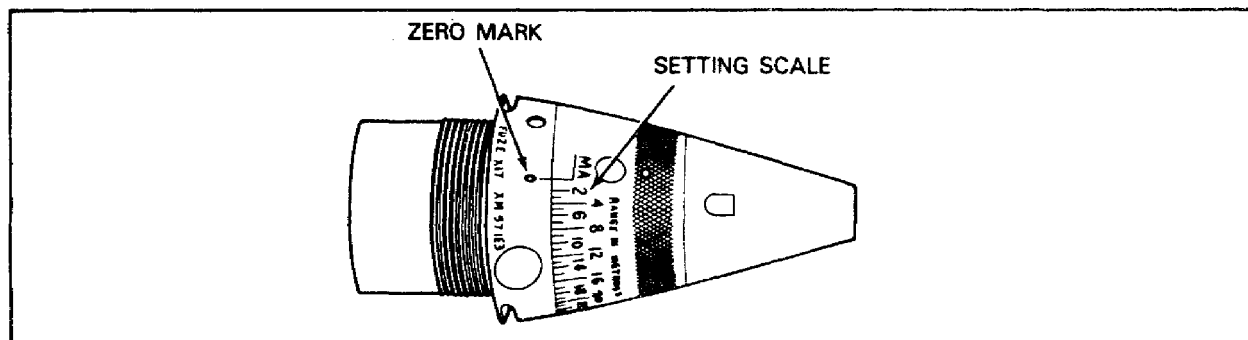

Figure 67. Typical MT Fuze.
Mechanical Time Fuze. The mechanical time (MT) fuze (Figure 67) contains a clock mechanism. The clock mechanism is set to a specific time before the round is fired. The clock starts when the round is fired. When the set time has expired, the round detonates. This fuze can be identified by the time scale encircling its body. Mechanical time fuzes may be unpainted with engraved markings or black with white engraved markings.